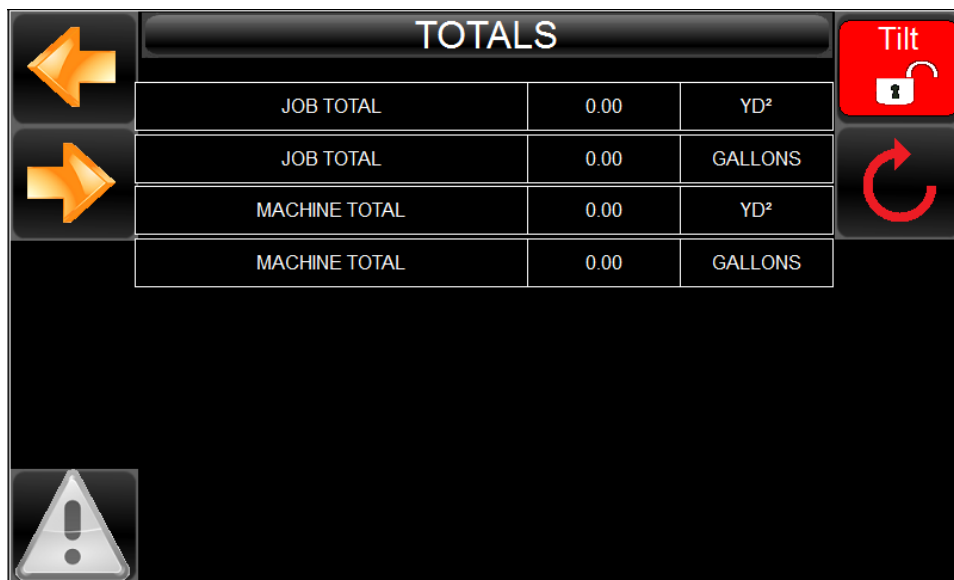

Figure 47: Zeroing the job totals
3. In the Totals screen of the display screen unit, zero the job totals by holding down the circular arrow key [2R] (see Figure 47) for at least 5 seconds.